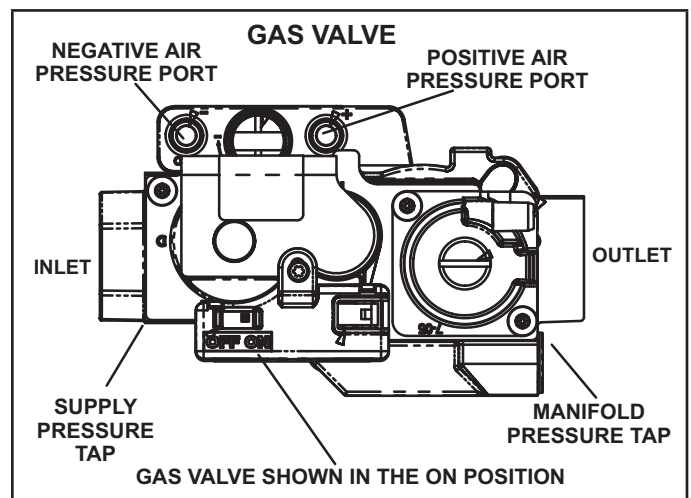

FIGURE 52
Gas Valve Operation (FIGURE 52)
- 6 - Move the gas valve switch to the OFF position. See FIGURE 52.
- 8 - Move gas valve switch to the ON position. See FIGURE 52. Do not force.
When testing supply gas pressure, connect test gauge to supply pressure tap on the gas valve. See FIGURE 52. Check gas line pressure with unit firing at maximum rate. Low pressure may result in erratic operation or underfire. High pressure can result in permanent damage to gas valve or overfire. See TABLE 34 for operating pressure at unit gas connection (line).